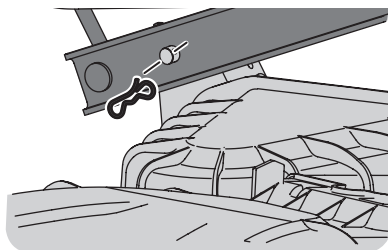

Figure 41
11. Looking at the deck from the left side of the tractor, locate the bow-tie pin on the rear left side of the deck. See Figure 41.
12. Remove the pin and slide the deck pin out of the deck lift arm. See Figure 41.